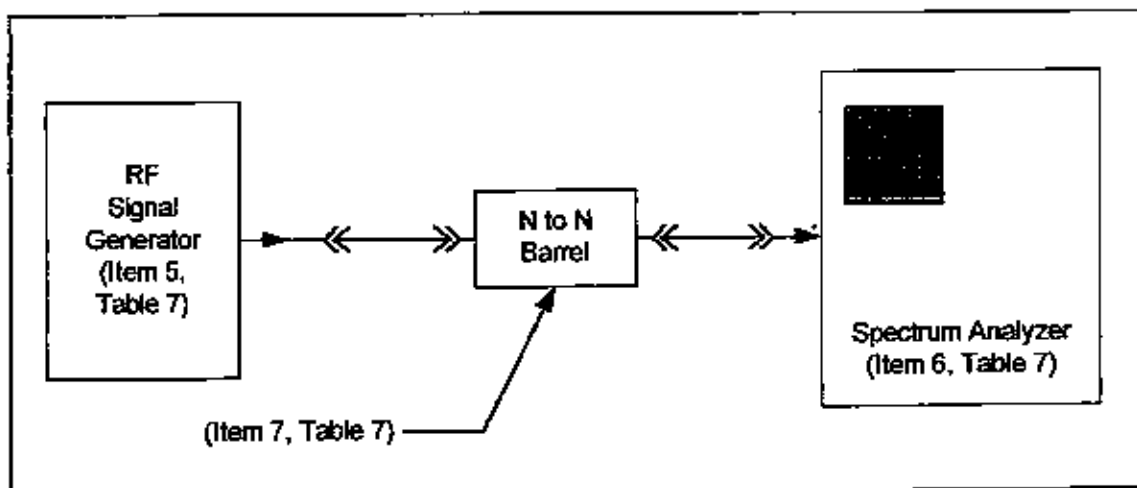

Figure 11. Test Generator Calibration Reference
2.	Set the RF Signal Generator to output a continuous wave (CW) signal with a frequency of $830 \pm 3\text{MHz}$ (SuperFilter A-Band operation) or $840 \pm 3\text{MHz}$ (SuperFilter B-Band operation), and the level set to $-50 \pm 1\text{ dBm}$ maximum. Record frequency level on Installation Data Record in Appendix D.
3.	Connect the RF Signal Generator output to the Spectrum Analyzer as shown in Figure 11, substituting an N-to-N barrel connector adapter for the SuperFilter.